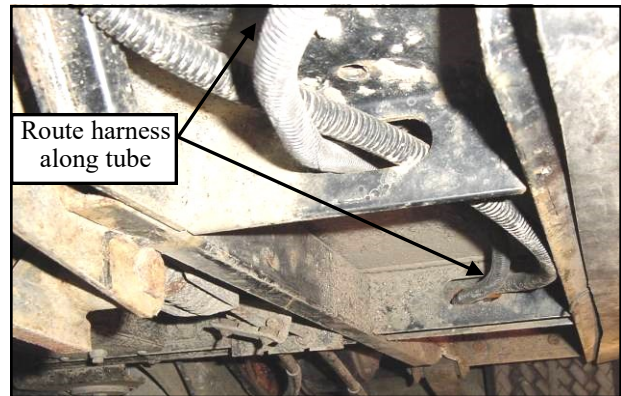

Figure 3.7 (view from passenger's side)
3.7 Per fig. 3.7, route the wire harness under the floor board through the existing cut-outs in the vehicle frame and up into the battery box area under the seat. Secure with zip ties, p-clamps and #10 self-drilling/tapping screws. Note: make sure harness is secured and not the lowest point to prevent wire pinching/snagging on obstacles.